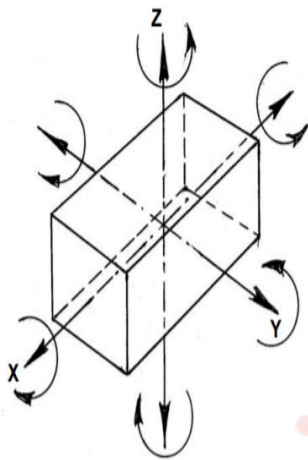
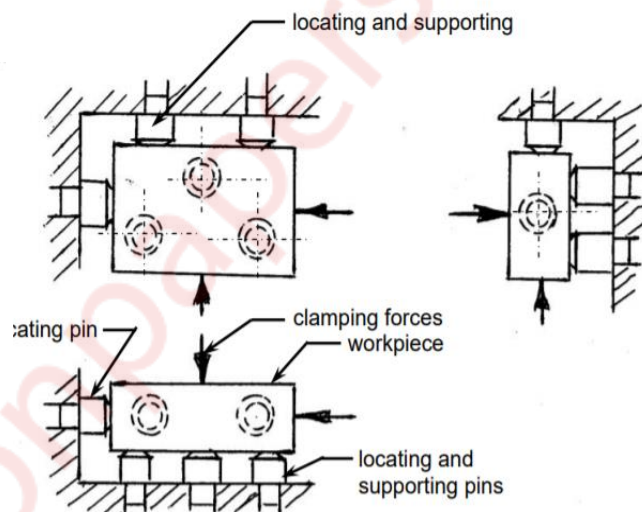

Fig. 8.1.4 Possible degrees of freedom of a solid body.
Fig. 8.1.5 Arresting all degrees of freedom of a blank in a fixture.
- Any solid body may have maximum twelve degrees of freedom as indicated in Fig. 8.1.4. By properly locating, supporting and clamping the blank its all degrees of freedom are to be arrested as typically shown in Fig. 8.1.5.